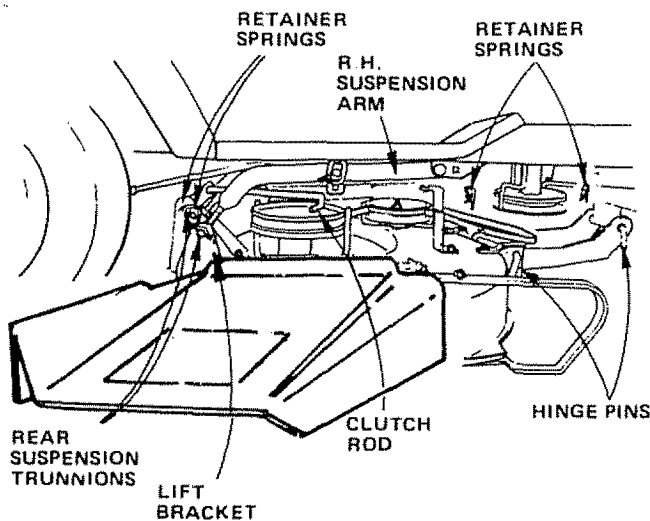

FIGURE 36
- Pull retainer springs out of rear suspension trunnions. Remove rear suspension trunnions from lift brackets (Fig. 36).
- Pull retainer spring out of rear hinge pin. Remove rear hinge pin (Fig. 36)
- Pull retainer spring out of front hinge pin. Remove front hinge pin (Fig. 36).
NOTE: IF AN ATTACHMENT OTHER THAN THE MOWER DECK IS TO BE MOUNTED ON THE TRACTOR, THE L.H. AND R.H. SUSPENSION ARMS (FIG. 36) SHOULD BE REMOVED FROM TRACTOR.